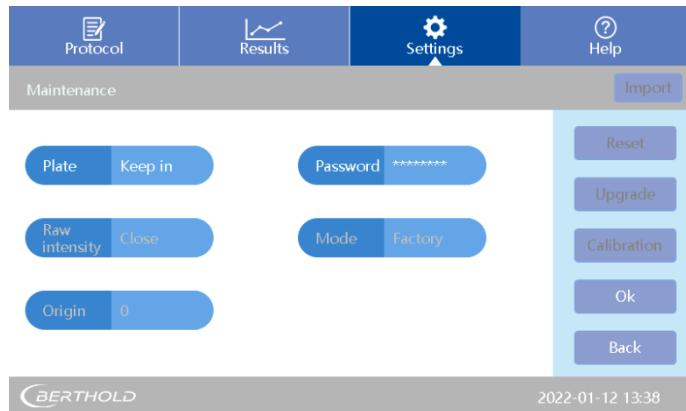

Fig 50: Maintenance menu
1. Press <Maintenance> in the [Settings] tab page. See Fig 50.